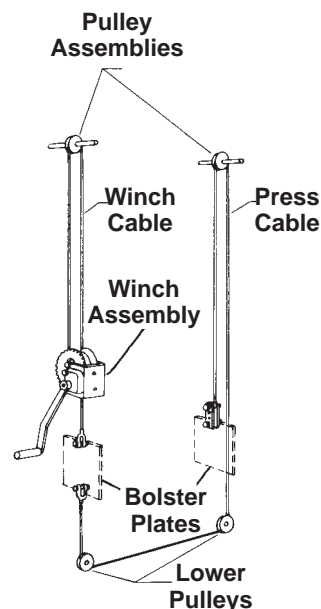
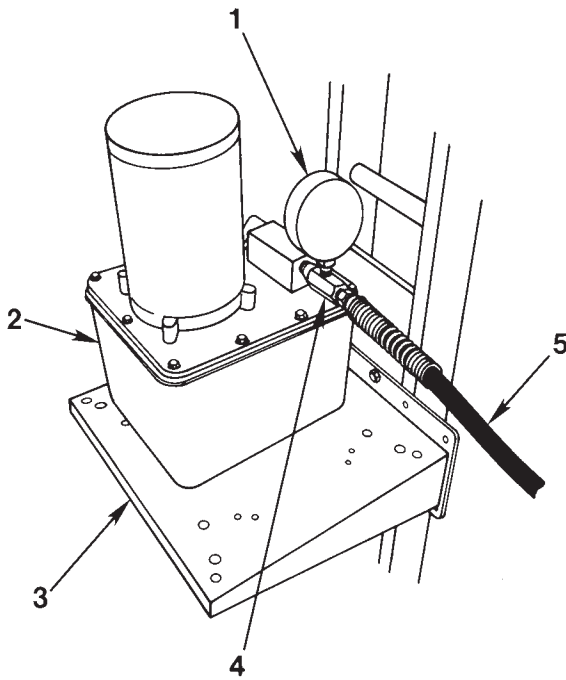

Figure 1
Figure 2
2. Attach foot (26) and lower pulley bracket (35) to left-hand upright (27) using cap screws (25) and hex nuts (8).
3. Slide the left-hand upright between the lower bolster assembly (29) until the upright is tight against the bolster plate.
4. Slide right-hand upright (21) between lower bolster assembly (29) until upright is tight against the bolster plate and pulley bracket (35). Then attach foot (26) to right-hand upright (21) and lower pulley bracket (35) using cap screws (25) and hex nuts (8).
5. Mount one of the upper bolsters (3) to top of the uprights (27 and 21) using bolster bolts (5) and hex jam nuts (4). *NOTE: The mounting holes in the upper bolsters for the ram assembly (15) must be facing down.*
6. To install bolster lifting mechanism, insert pulley axles (1) through one side of the middle holes in the press uprights, place pulleys (2) on axles, then push shafts into holes in other side of press uprights. *Note: Once assembly of the press is complete, lubricate both axles using a general purpose grease.*
7. Mount remaining bolster to uprights using bolster bolts (5) and hex jam nuts (4). This will hold pulleys (2) and axles (1) in place.
8. Fasten winch cable (9) to winch assembly (23), then attach winch assembly to left upright (27) using cap screws (11) and washers (2). Tighten cap screws securely.
9. Feed winch cable (9) over pulley, then attach end of cable to the top hole in the left bolster lifting plate using a cap screw (16) and hex nut (13).
10. Attach press cable (10) to lower hole in the left bolster lifting plate using cap screw (16) and hex nut (13).
11. Lay press cable (10) in center of lower lifting bracket (35), then install pulleys (24) with clevis pins (33), and secure with cotter pins (32). *Note: Once assembly of pulleys is complete, lubricate both clevis pins using a general purpose grease.*
12. Thread cable over upper right pulley (2) and attach to right bolster lifting bracket with cable straps (20), cap screws (18), and locking nuts (13). (See Fig. 1 Cable Threading Diagram.) *NOTE: When attaching cable, place cable attachment eye over center hole of cable straps (20).*
13. Raise and lower bolster assembly to make sure winch and cable operate smoothly and freely. Next, raise bolster just enough to install the two bolster pins (34) through the uprights. Then lower the bolster onto the bolster pins. *Note: Once the bolster is resting on the pins (34), make sure there is slack in the press cable (10). If bolster assembly does not operate freely, or there is no slack in the press cable when the bolster is resting on the pins, reposition the cable on the cable attachment eye (up or down as necessary) until bolster operates freely and there is slack in the cable. Once bolster operates freely and cable is adjusted correctly, remove the two support blocks and wrench tighten all hex nuts (13).*
14. Attach pump mounting bracket (22) to right-hand press upright (21) using cap screws (31) and hex nuts (30).
15. Place pump on mounting bracket. Secure with the four cap screws that were shipped with the pump. (Refer to Figure 2, sheet 2 of 2.)
2. Thread the hydraulic cylinder (15) into the cylinder mounting plate (14). Refer to Figure 1. **IMPORTANT: The threads of the cylinder must be flush with the bottom of the mounting plate for full thread engagement.**
3. Place the cylinder assembly on the lower bolster assembly (29). **IMPORTANT: The pipe plug on the cylinder must face the pump side of the press frame.**
4. By operating the winch mechanism, raise the cylinder assembly to the upper bolster (3). Block the cylinder assembly if additional height is needed so the cylinder will reach the upper bolster when the lower bolster is raised.
5. Attach the cylinder mounting plate to the upper bolster with cap screws (17), SAE washers (19), beveled washers (7), and hex nuts (8). Refer to Figure 2. *NOTE: Place the beveled washers on top of the bottom lip of the upper bolster. The larger dimension of the beveled washer is positioned to the outside of the bolster to provide a level surface when tightening the hex nuts.* Once the beveled washers are in their correct position, wrench tighten the hex nuts.